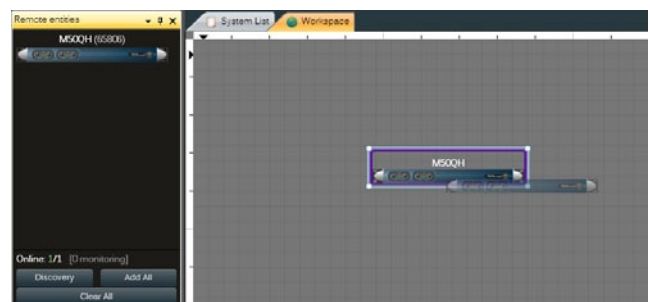

FIGURE 22: Drop the discovered device on the virtual device; when the arrow appears, release the left mouse button.
Virtual devices allow the use to select the processing layout for any single DSP module. Select the desired layout in the preset tab of any virtual device (ref. FIGURE 22).
2. Drag the remote device into the workspace onto the virtual device (ref. FIGURE 22).